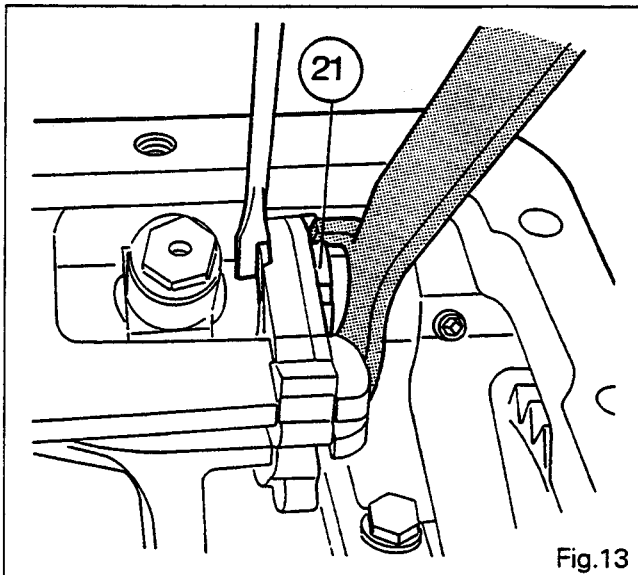

Fig. 13
- 52* Temporarily refit the setscrew (8).
53. Loosen the castellated nut (21) using the special wrench, 3615334 M01 (Fig. 13), and see Part C.